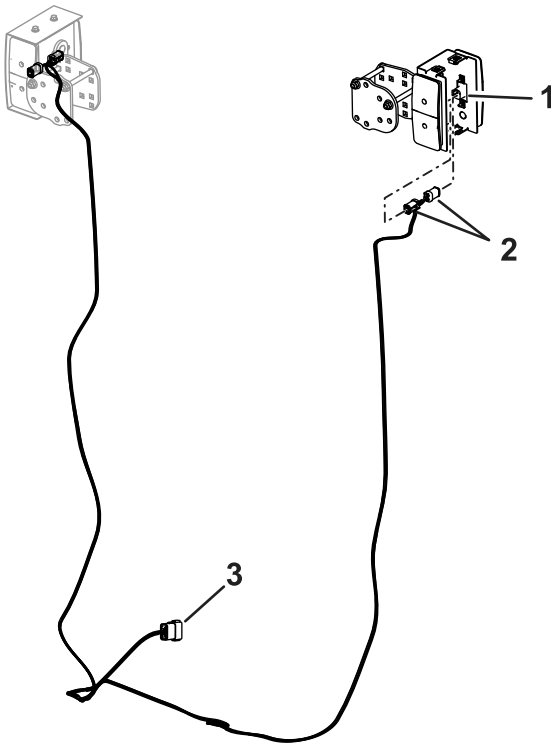

Figure 21
- Plug the wire harness 12-pin connector into the main harness (Figure 21).
- Plug the harness into the front and rear lights (Figure 21).